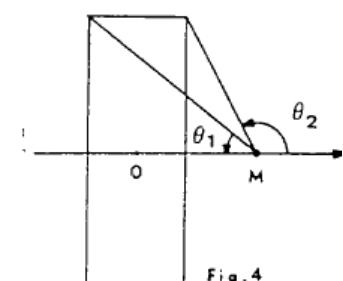

Fig. 4
b) Induction at point M on the axis OM = R (figure 4)